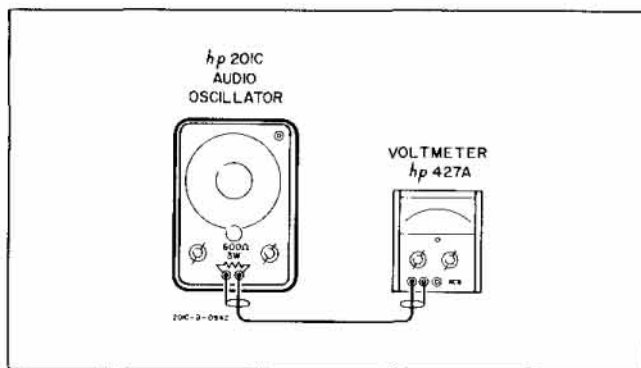

Figure 5-2. Frequency Response and Output Check
- Connect test setup as shown in Figure 5-2, including a 600 ohm load resistor across the output terminals of the Model 201C.
- Connect test setup as shown in Figure 5-2, using a 600 ohm 3 watt load resistor.
- a. Connect Model 201C as shown in Figure 5-2 and proceed as follows: